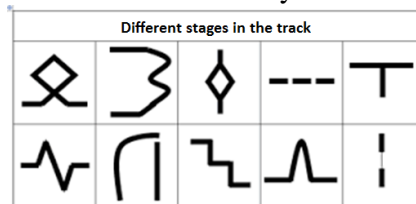

Figure 2- Examples of complexities that may occur in the tracking line in real-life situations
- The robots employed in industries may face some (unexpected) complexities while following their line. These changes include the shapes represented in Figure 2. To get the bonus points, the robot may be able to follow the line with sharp edges with less than 90 degrees (but not less than 30 degrees). You do not need to track any other changes presented in Figure 2.